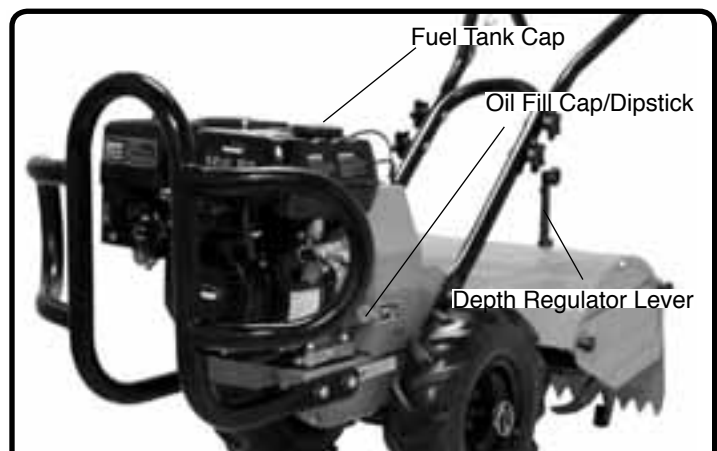

Figure 6
1. Place the tiller on a level surface and make sure the depth regulator lever is set so the main frame of the tiller is level. (See Figure 6)
2. Remove the oil fill cap/dipstick and wipe clean with cloth. (See Figure 6)